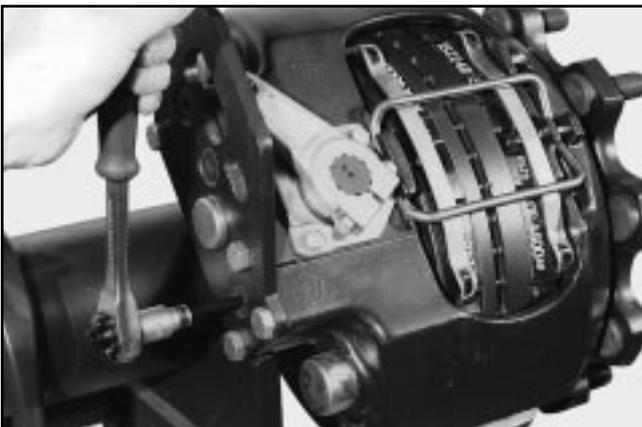

FIG. 13
In general, de-adjustment or “back adjustment” is achieved when the key is turned in the direction which produces load clicks. (This indicates that the torque limiter is working). Turning in the opposite direction will result in a smoother silent action, which will give positive adjustment and reduce pad to rotor clearance (Fig. 13).
- Using a 6mm Allen key, carefully back off the brake. (Fig. 13 and 14a). **CAUTION – Read section 2.5, Manual Adjustment.**